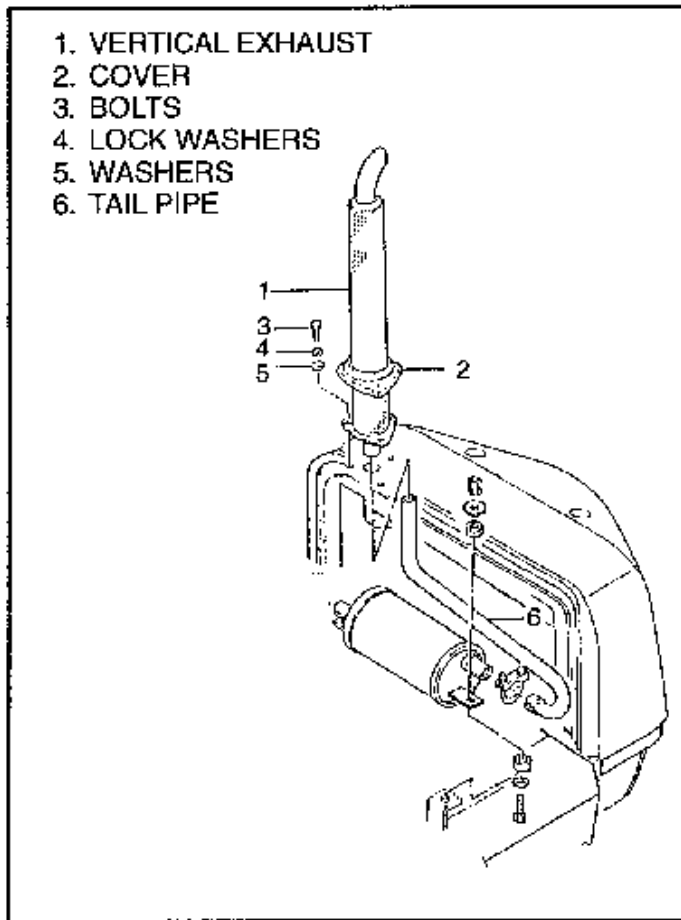

FIGURE 9
1. If an vertical exhaust is installed, remove it as shown FIGURE 9.
2. If the lift truck has an vertical exhaust, install it as shown in FIGURE 9.